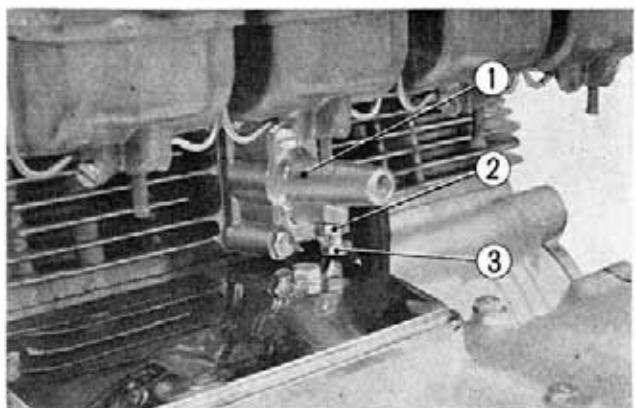

Fig. 3-44 ① Cam chain tensioner holder
7. Push in the push bar for the cam chain tensioner. Install the tensioner on the cylinder, loosen the tensioner adjusting bolts and then retighten the bolts and lock with the lock nut. (Fig. 3-44)